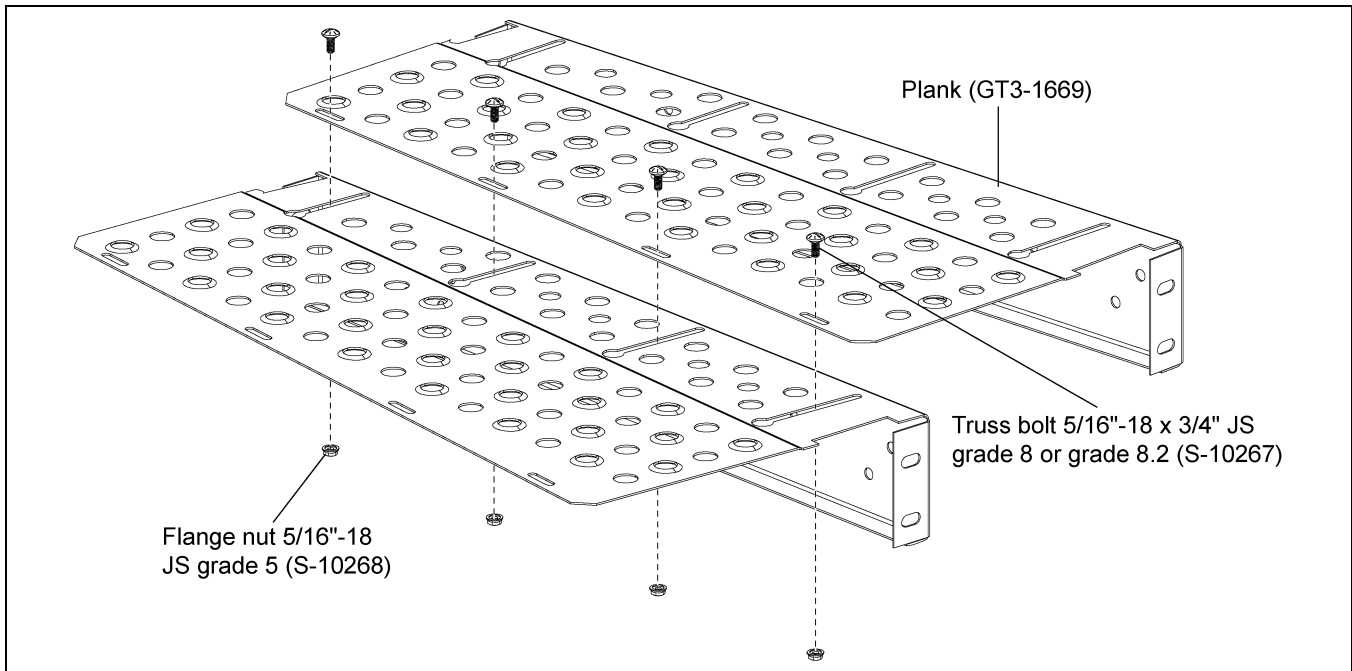
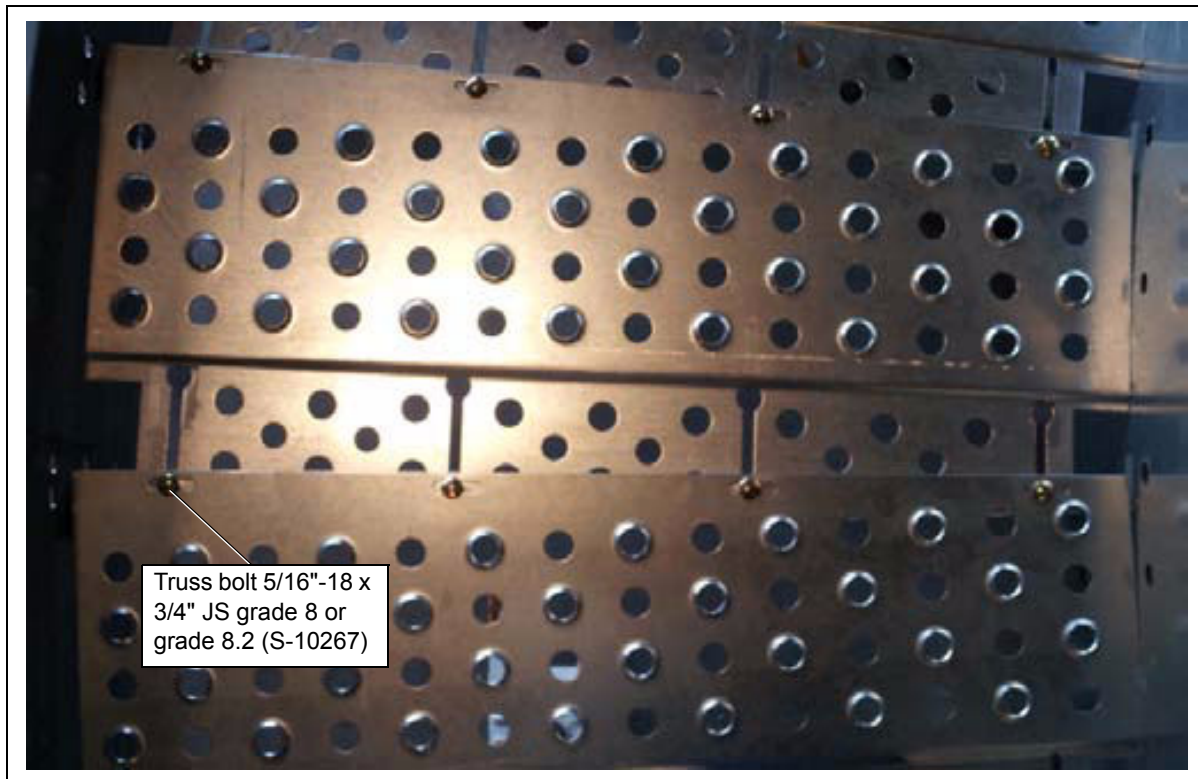

Figure 6P
Figure 6Q
4. Each plank should be overlapped at the edges and bolted with 5/16"-18 x 3/4" JS grade 8 or grade 8.2 bolts (S-10267) and 5/16"-18 x 3/4" JS grade 5 nuts (S-10268). (See Figure 6P and Figure 6Q.)